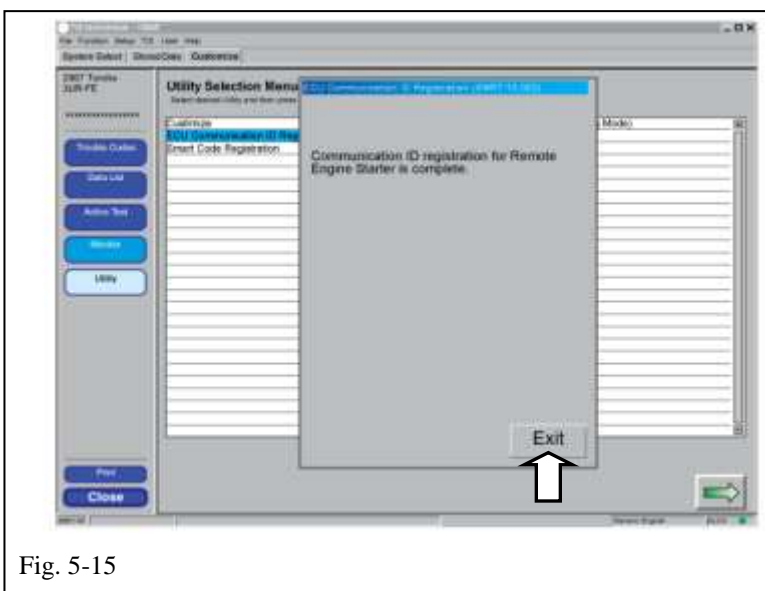

Fig. 5-15
- (cc) Click "Exit." (Fig. 5-15)